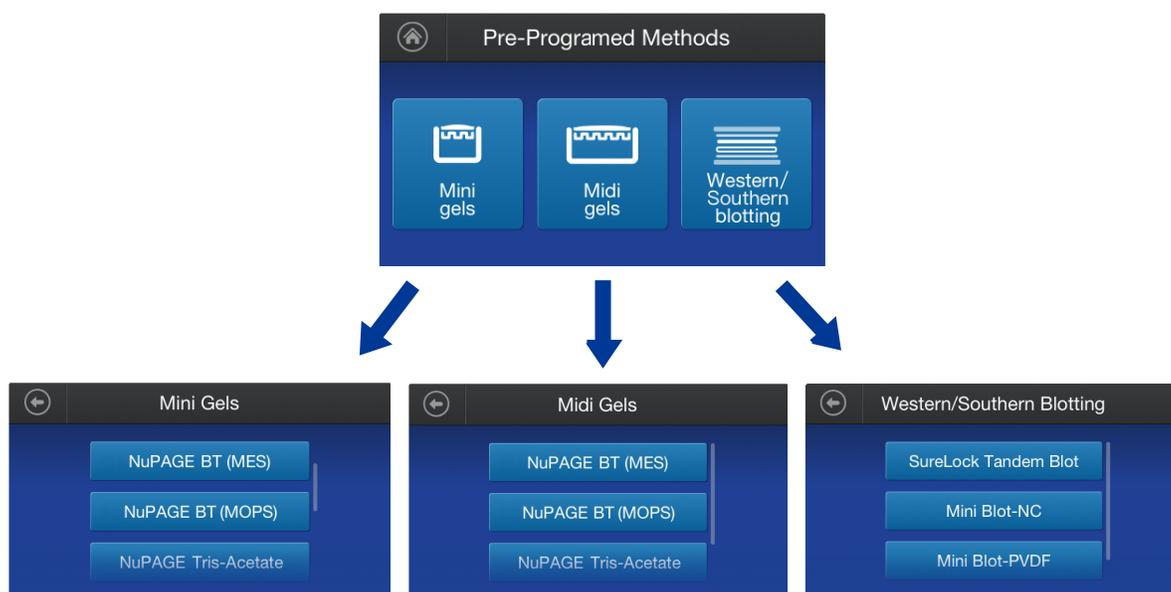

Figure 7 Pre-programmed Methods screens
2. In the **Pre-programmed Methods** screen, touch either **Mini gels**, **Midi gels**, or **Western/Southern blotting** (see Figure 7).